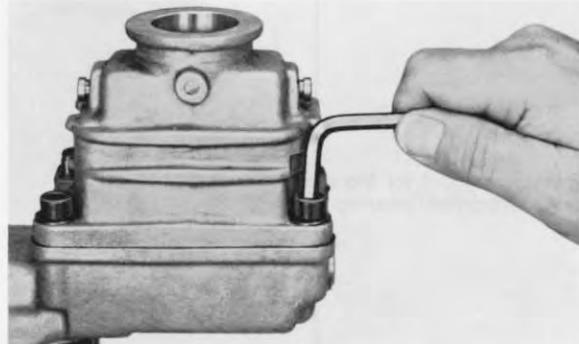

Fig. 3
- 1.2 Loosen the 4 screws (637) (Fig. 3) and lift off the gear change turret from the selector arm (Fig. 4). Take off guide plate.